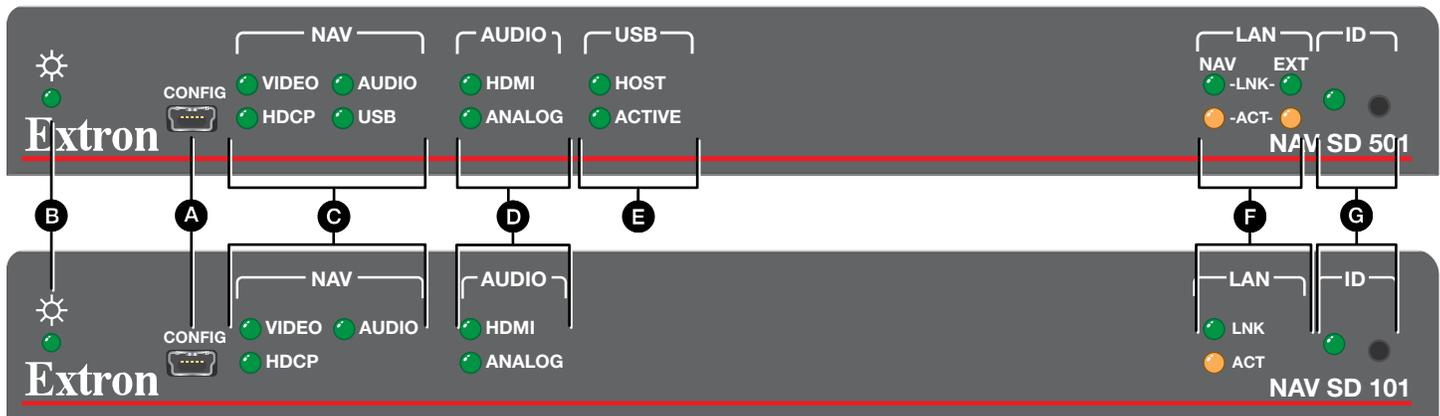

Figure 2. NAV SD 501 and NAV SD 101 Front Panel Features
- F **LAN LEDs** (see figure 2 on page 2)— Indicate the status of the network connections, as follows:
Connection to the decoder and its embedded web pages can be made via either the front panel Configuration (USB) port (using IP over USB) (see figure 2, **A**) or the rear panel NAV 1G/PoE+ port (see figure 1, **A**).